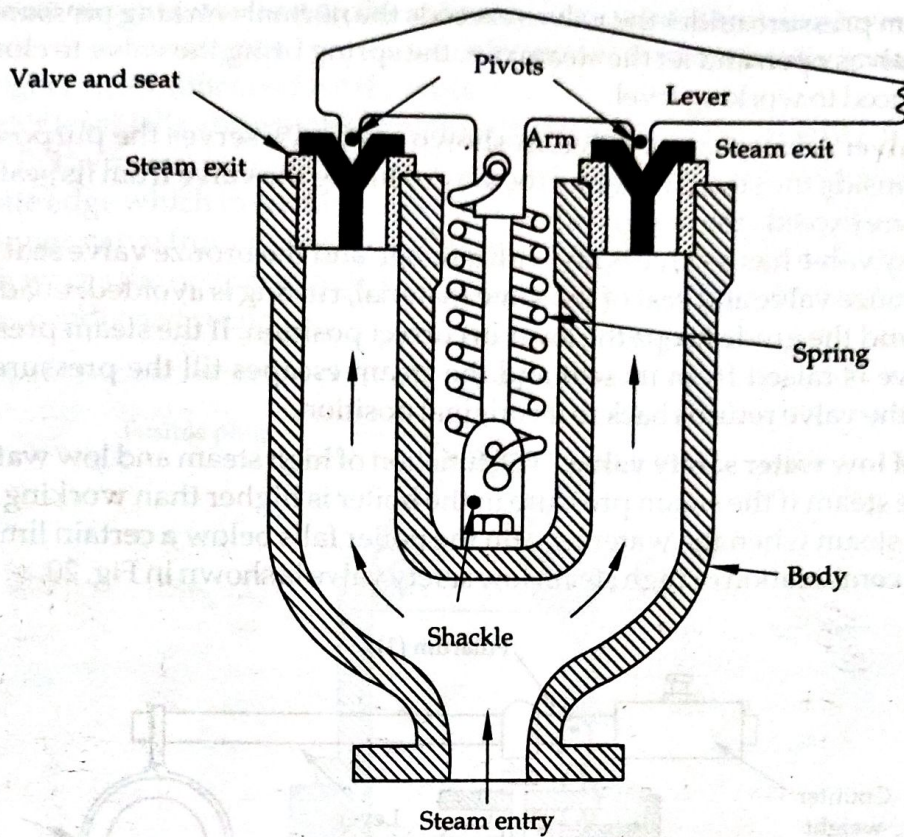

Fig. 18 Spring Loaded Safety Valve
2. Spring loaded safety valve: This type of valve is loaded with spring made of steel rod in helical form placed under compression as shown in Fig. 18.